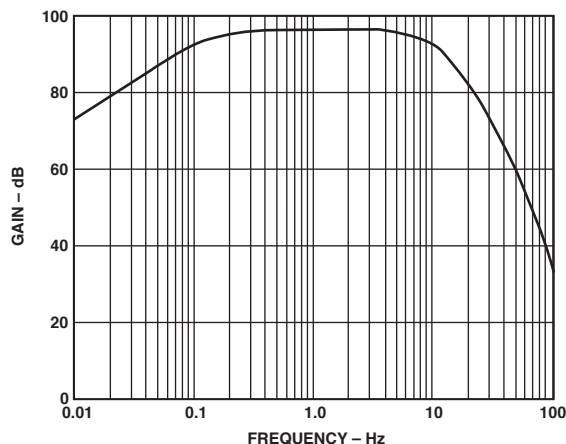

Figure 7. 0.1 Hz To 10Hz Peak-To-Peak Voltage Noise Test Circuit Frequency Response
4. The test time to measure 0.1 Hz-to-10 Hz noise should not exceed 10 seconds. As shown in the noise-tester frequency response curve of Figure 7, the 0.1 Hz corner is defined by only one pole. The test time of 10 seconds acts as an additional pole to eliminate noise contribution from the frequency band below 0.1 Hz.